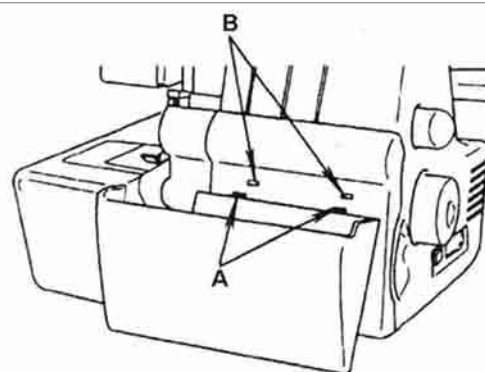

Fig. 6
- First push the two restraints (A) into the receiving holes (B) (Fig. 6).